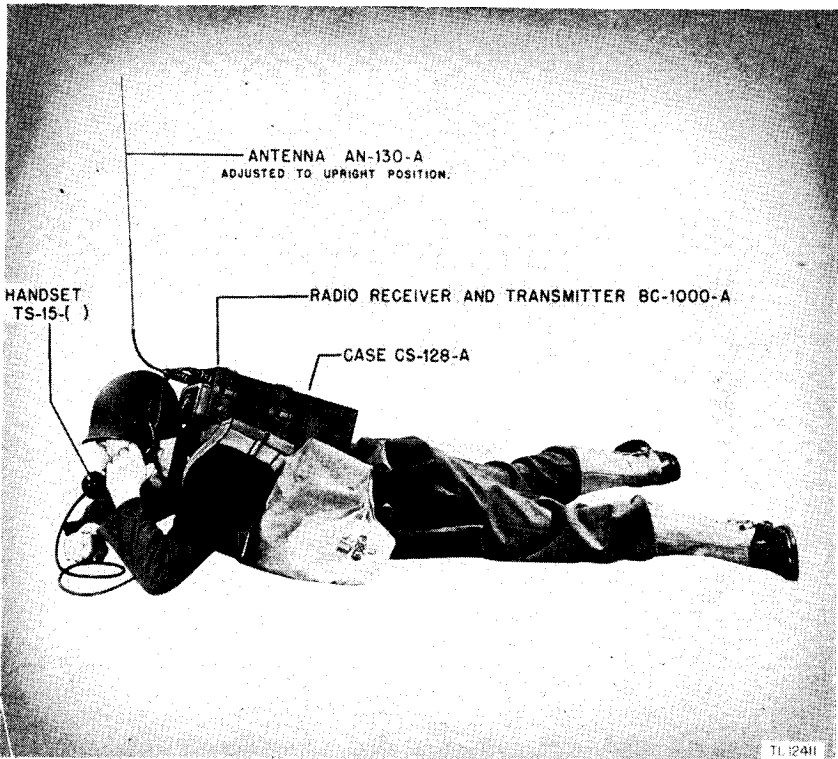

Figure 2. Radio Set SCR-300-A in use, showing adjustment of Antenna AN-130-A.
e. TYPE OF ANTENNA. Radio Set SCR-300-A is designed for transmission and reception with a vertically polarized antenna. Therefore, great care must be taken to maintain the antenna in a vertical position at all times, regardless of the position of the set. (See fig. 2.)